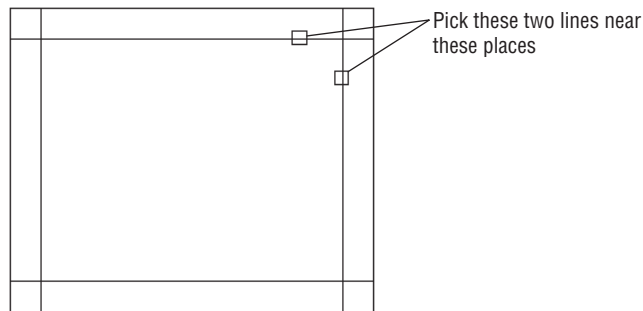
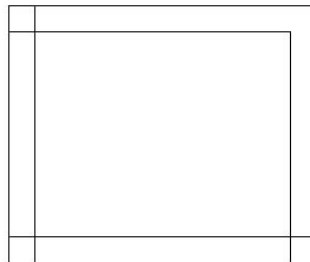

FIGURE 2.13: Pick two lines to execute the Fillet command.
FIGURE 2.14: The first cleaned-up corner
3. Move the cursor—now a pickbox—to the box, and click two intersecting lines, as shown in Figure 2.13. The intersecting lines will both be trimmed to make a sharp corner (see Figure 2.14). The Fillet command automatically ends.